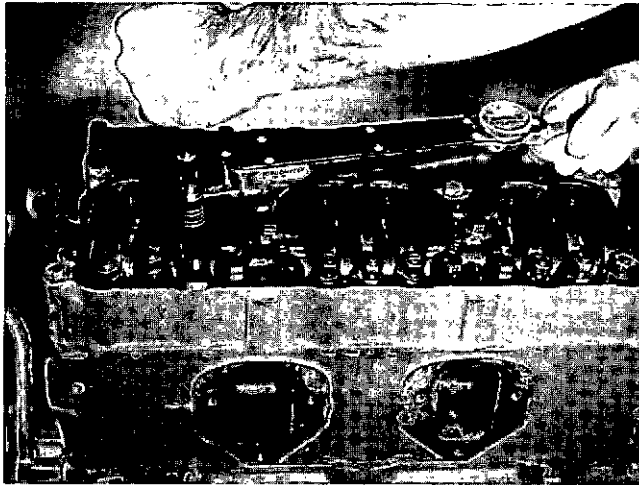

Fig. 14-1-112, V414194. Tighten locknut using ST-669 and torque wrench
6. Tighten locknuts to 30 to 40 ft-lb [4.1490 to 5.5320 kg m] torque; if ST-669 Tool is used, tighten to 25 to 35 ft-lb [3.4575 to 4.8405 kg m] torque. Fig. 14-1-112.